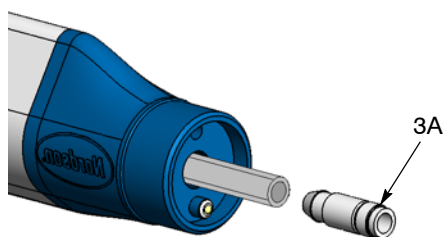

Figure 21 Removing Barbed Tube Fitting
3. See Figure 21. Pull the barbed ceramic tube fitting (3A) out of the gun and disconnect the flexible powder tubing from the tube fitting.
10. Install the lock knob (20) over the end of the flexible powder tubing. Insert the end of the flexible powder tubing into the mesh sleeving and pull the powder tubing through the gun to the front.
11. See Figure 21. Install the barbed ceramic tube fitting (3A) into the end of the flexible tubing, then pull the tubing back until the ceramic fitting seats into the gun.